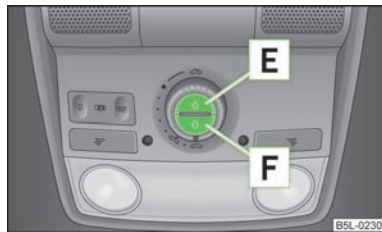

Fig. 21
The sun screen can be closed or opened separately using the buttons » Fig. 21.
- Briefly press the button **E** » Fig. 21 to open fully.
- Briefly press the button **F** » Fig. 21 to close fully.
Press and hold the switch **F** » Fig. 21 for approx. 10 seconds to initialise the sun screen.